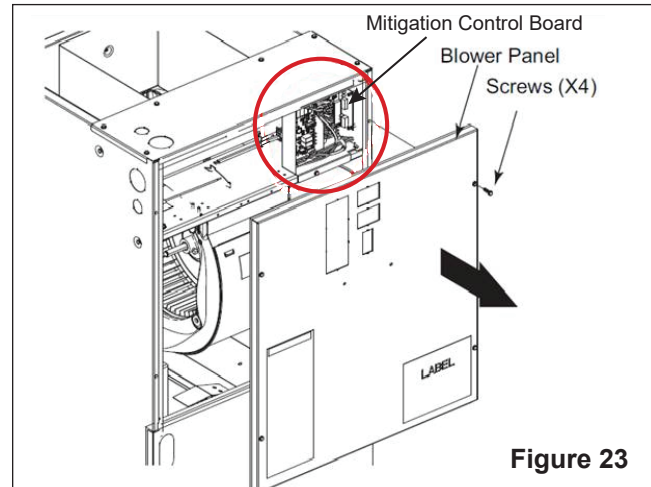

Figure 23
3. Route the RED 24V wire from the ACCEs control harness to the location of the mitigation control board in the system. The location of the mitigation control board is shown in Figure 23.